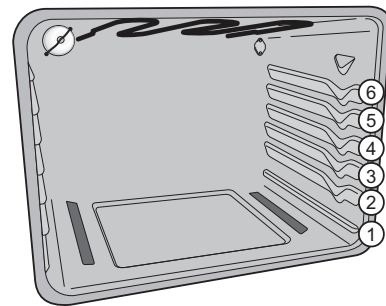

Figure 13: Rack positions
- For best results when baking layer cakes using 2 oven racks, place bakeware on rack positions 3 and 6 See Figure 13.